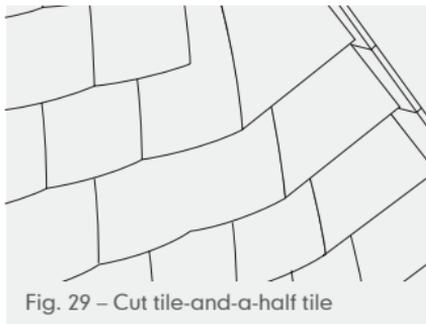

Fig. 29 – Cut tile-and-a-half tile
- 2 Cut tile-and-a-half tiles to angle of rake for each vertical course, keeping cut edge parallel to and below rake (Fig. 29).